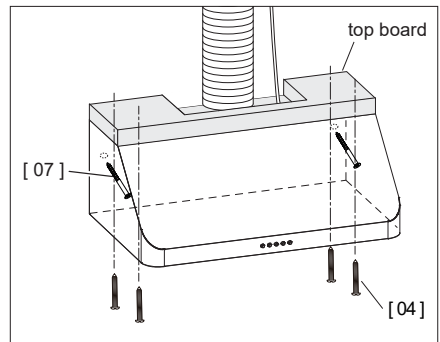

Fig 4
1. Push the **Range Hood [01]** to **top board** and wall and secure with **#8 x 1.18" Screws [04]** from the inside. (Fig 4)
2. Secure the **Range Hood [01]** with **#10 x 1.96" Screws [07]** from the inside to the wall. (Fig 4)